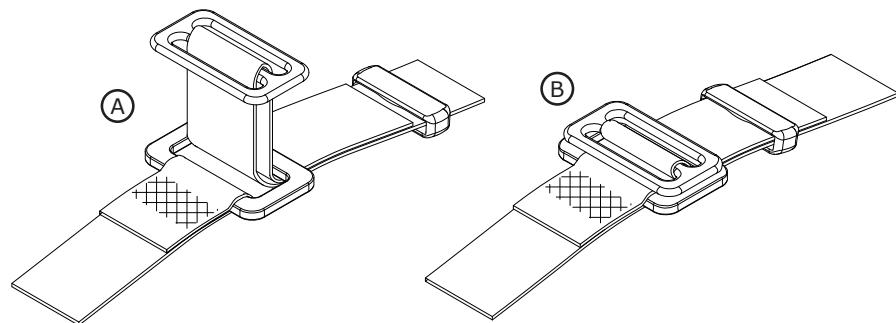

Figure 7 - Adjusters
3.4 HARNESS ADJUSTMENTS: harnesses are equipped with a pair of Torso Adjusters for adjusting the Shoulder Straps. Figure 7 illustrates operation of the Torso Adjusters:
- A. Tightening:** Pull on the loose web end as illustrated in Figure 7 to tighten the Shoulder Strap.
- B. Loosening:** Rotate the buckle as illustrated in Figure 7 to loosen the Shoulder Straps.